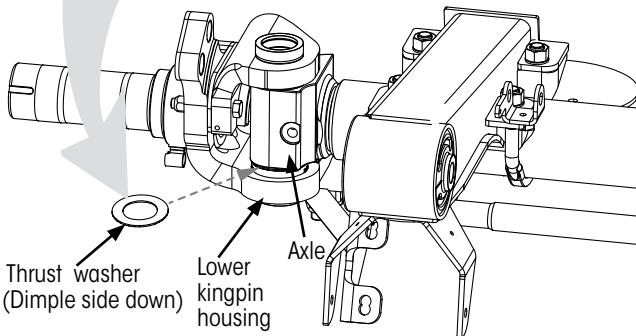

Figure 26: Installing thrust washer
7. Insert thrust washer, dimples facing down (Figure 26), between lower kingpin housing assembly and axle end (Figure 26).